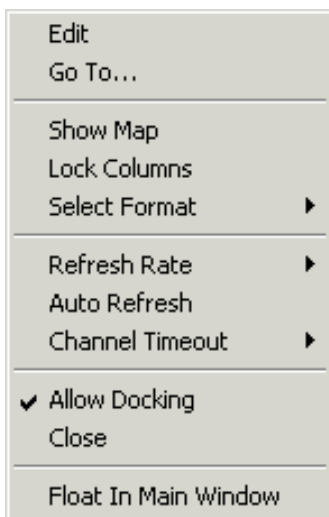

Figure 3-19. BTC Memory Window Right-Click Menu
2. Right-click in the **BTC Memory** window to display a menu of features, shown in Figure 3-19 on page 3-28.
Double-clicking on a channel displays the corresponding memory in the **BTC Memory** window. When **Show Map** is disabled, you can choose a channel from a drop-down list selected from the **BTC Memory** window right-click menu (Figure 3-19 on page 3-28).